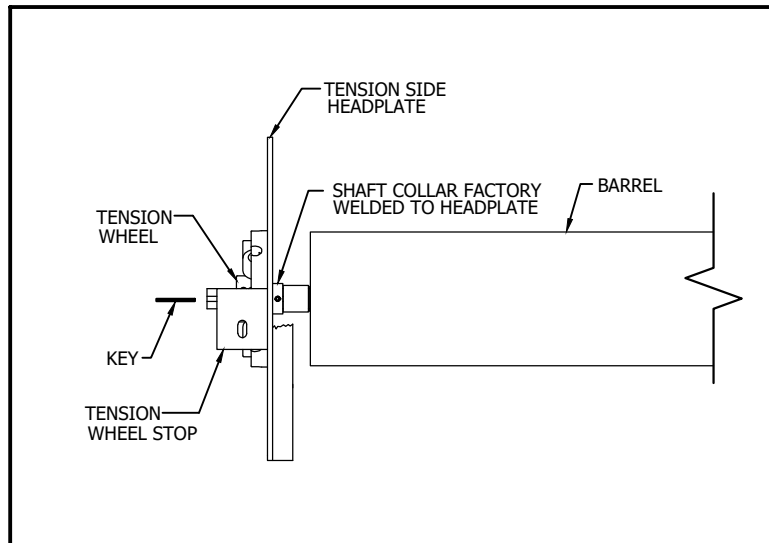

FIGURE 12
- Install tension side headplate, tension wheel and key on tension shaft as shown in Figure 12. Tighten set screws on tension wheel.